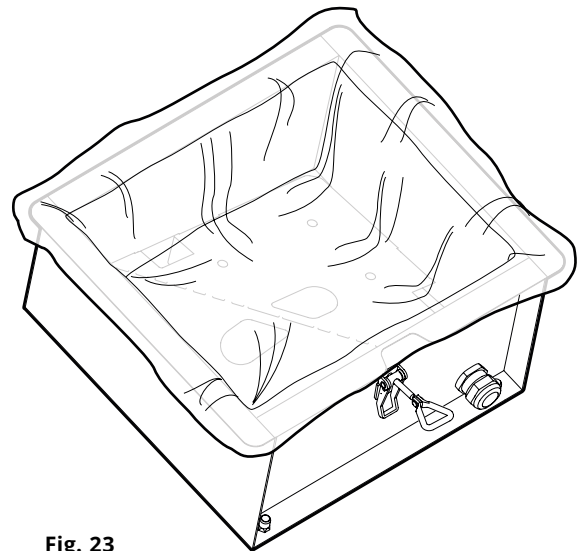

Fig. 23
6. Place an new Dust Bag CMF PSW3 correctly into the dust collector, see **Fig. 23**.